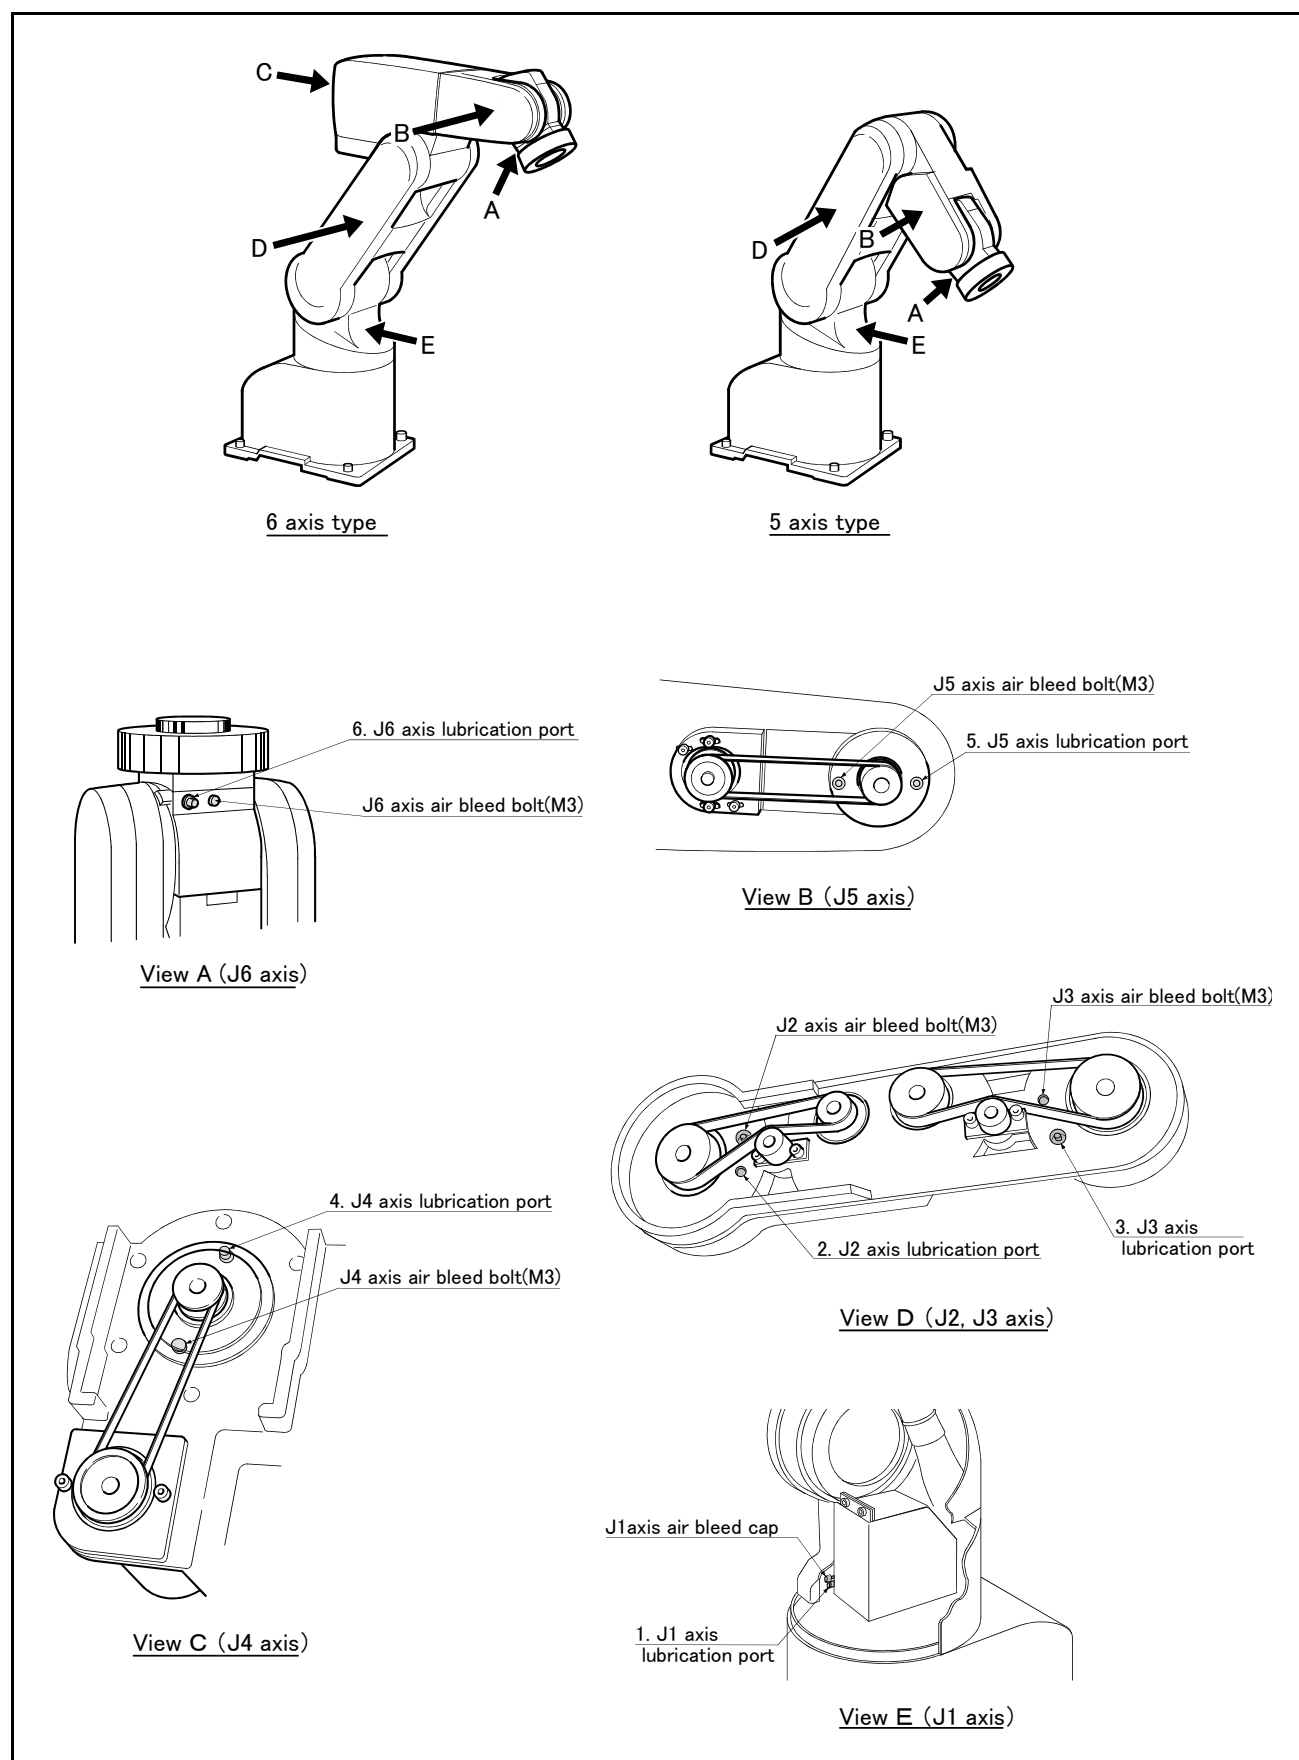

Fig.5-11 : Lubrication positions
The grease nipple position is shown in Fig. 5-11. The lubrication specifications for each place are shown in Table Fig. 5-6. Before lubricating, refer to “Fig. 5-4Installing/removing the cover \(5-axis type\)” on page 42 for the 5-axis type, and “Fig. 5-5Installing/removing the cover \(6-axis type\)” on page 42 for the 6-axis type, and remove the required covers.
- The numbers in the Table Table correspond to the supply positions in Fig. 5-11.
(2) Lubrication method